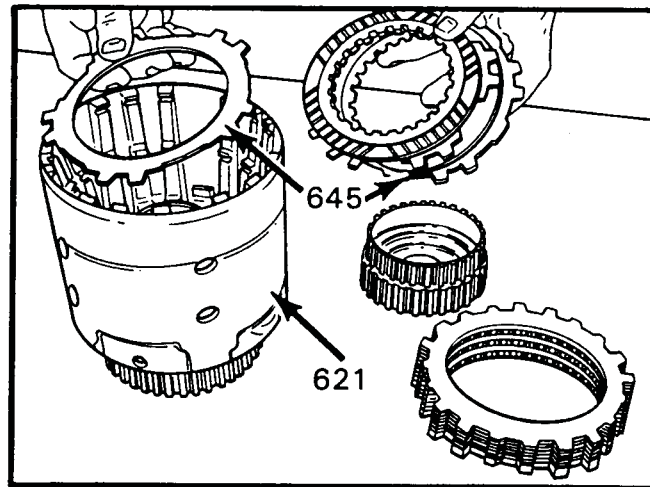

Figure 124
1. Install the overrun clutch plates into the input housing (See Figure 124).